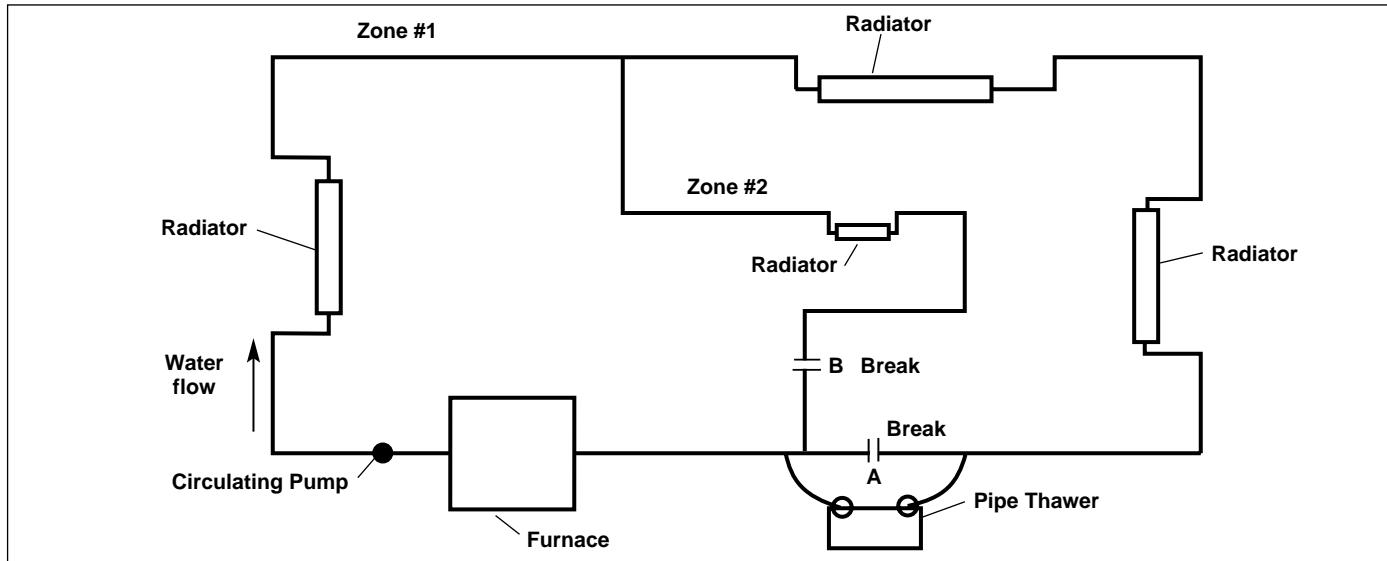

Figure 7 – Multi Zoned System
**NOTE!** The electrical output current of both the KT-190 and KT-200 can take two paths. The shortest distance between the clamps, or the long path around the pipe loop. Therefore, in some systems it is required to break the pipe to eliminate the short path (*Figure 7*).
2. Break the pipe at Point A and place pipe clamps as shown in *Figure 7*. This forces the current to flow through Zone #1. Use a container to collect the water.